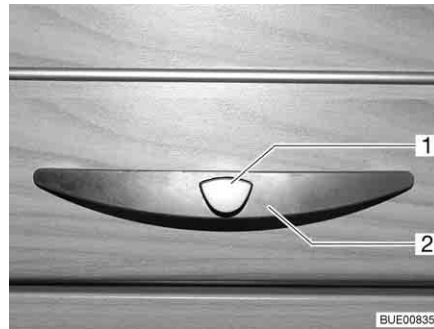
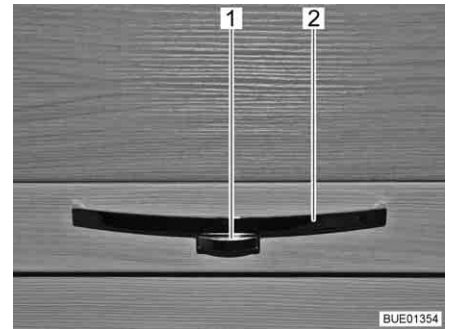

Fig. 58 Furniture flap with handle (example)
Fig. 59 Furniture flap with handle (example)
- Press the release knob (Fig. 58,1 or Fig. 59,1) on the handle (Fig. 58,2 or Fig. 59,2) and hold it down.